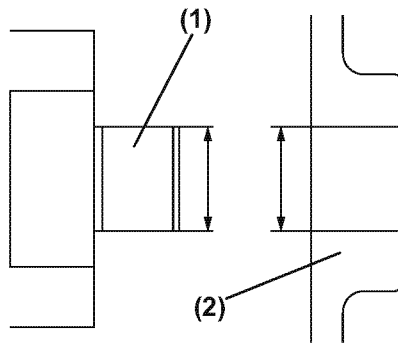

Figure 9-20
Inspect the rotor shaft clearance. Measure the outside diameter of the rotor shaft (**Figure 9-20, (1)**) and the inside diameter of the cover.